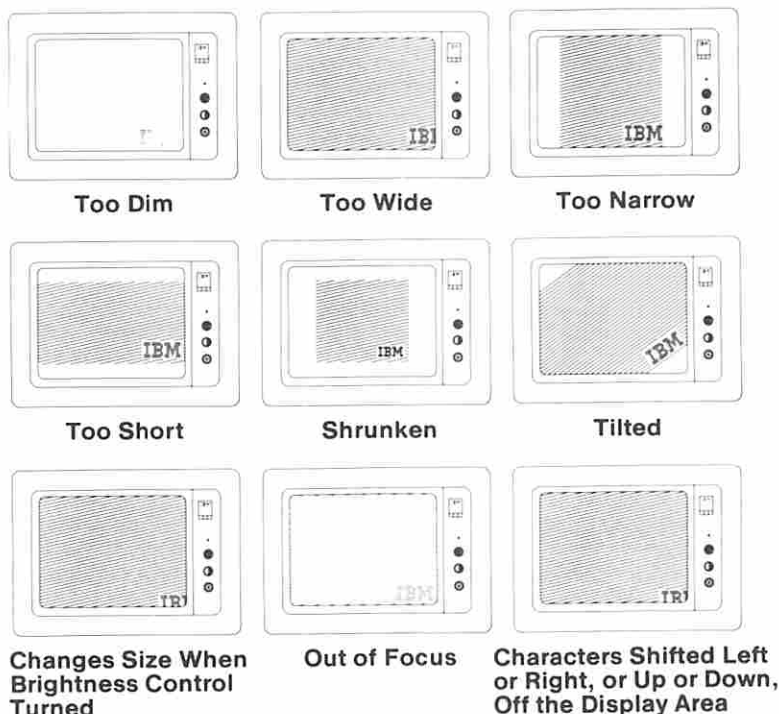

Figure 2. Distorted Images
- The image on the screen may be distorted or the characters may be the wrong size, as shown in Figure 2 on page 0500-6.
IS THE IMAGE ON THE SCREEN DISTORTED OR THE WRONG SIZE? (Figure 2)